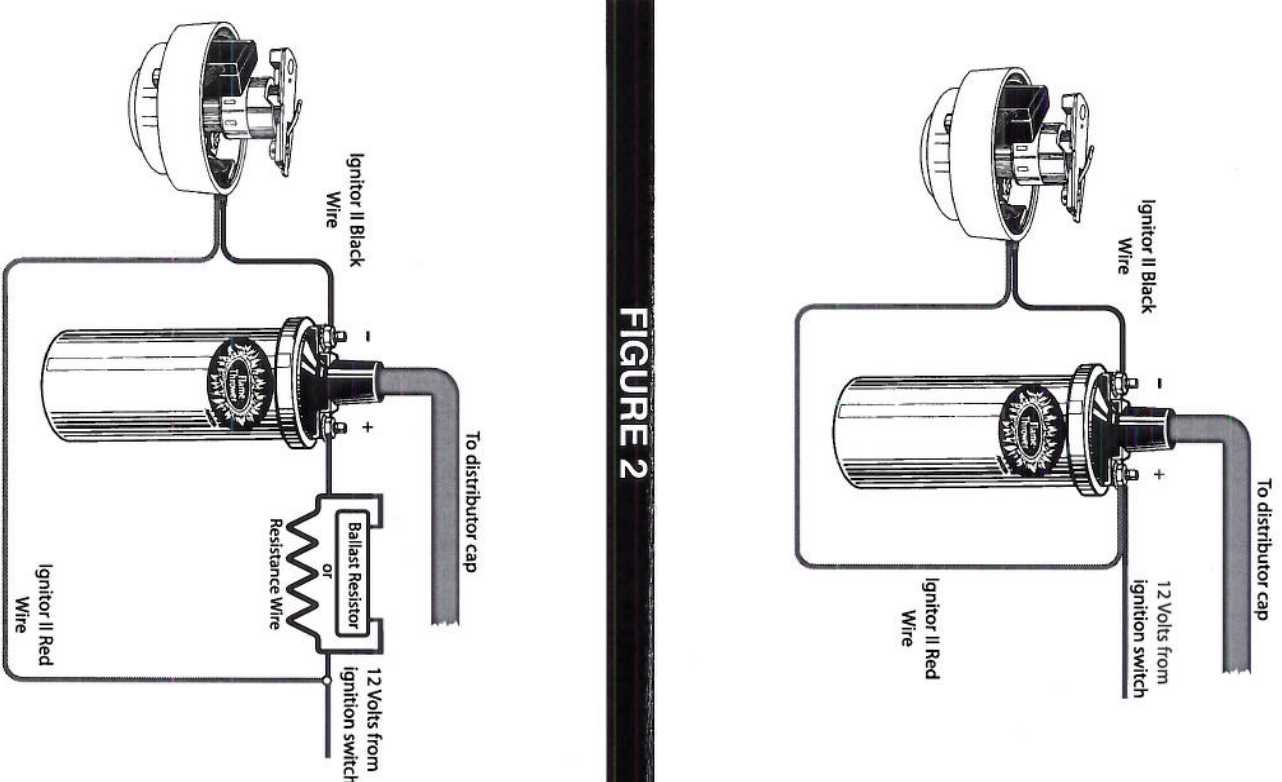

FIGURE 2
- B. **Alternative:** The Ignitor II can also be installed in applications retaining the ballast resistor or resistance wire. (See Figure 2)